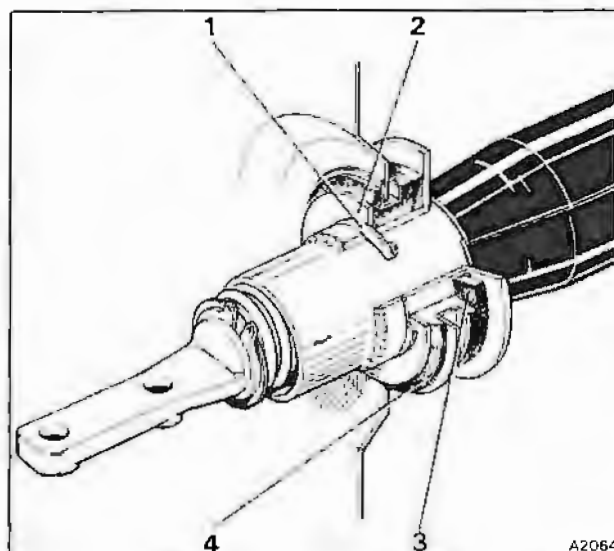

Fig. N5-3 Toeboard fixing
5. Remove the large circlip and washer from the engine compartment side of the toeboard (see fig. N5-3).
Steering column – To fit (see figs. N5-3 and N5-4)